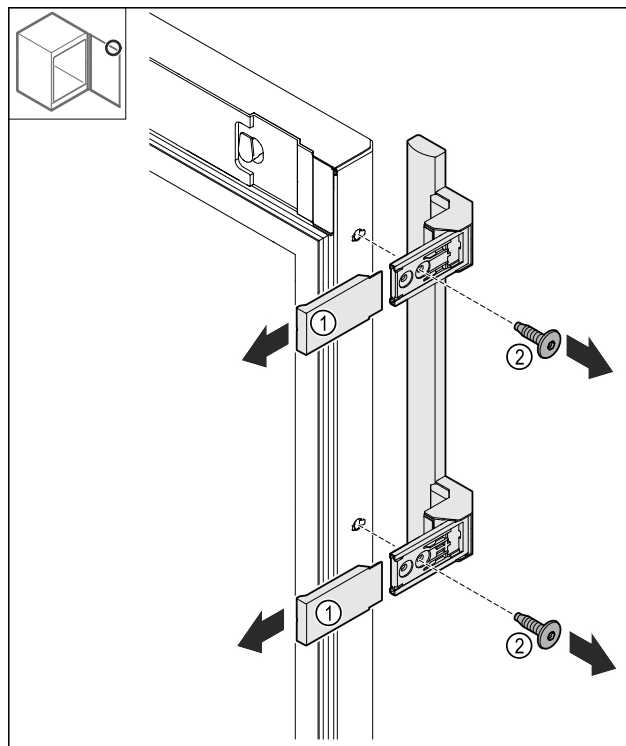

Fig. 26
- Pull off the Fig. 26 (1) covers.
- Loosen the Fig. 26 (2) screws.